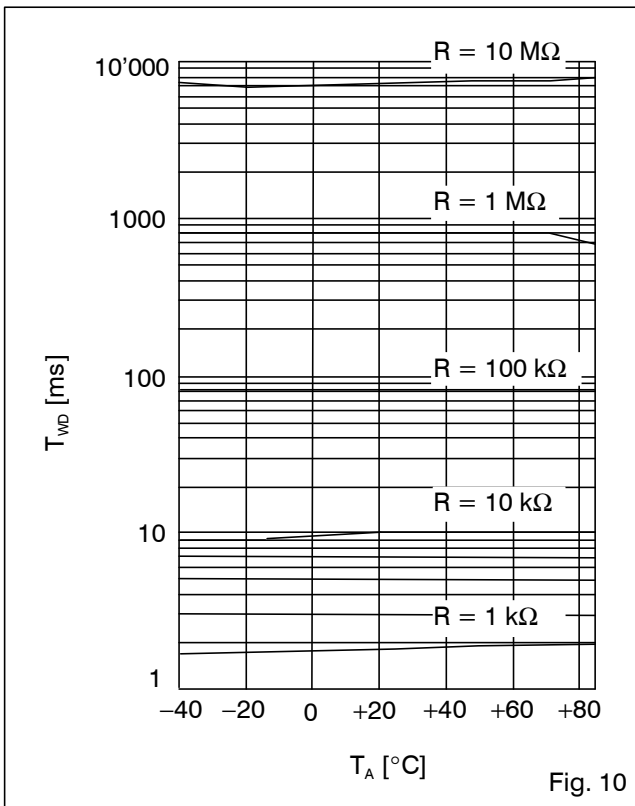
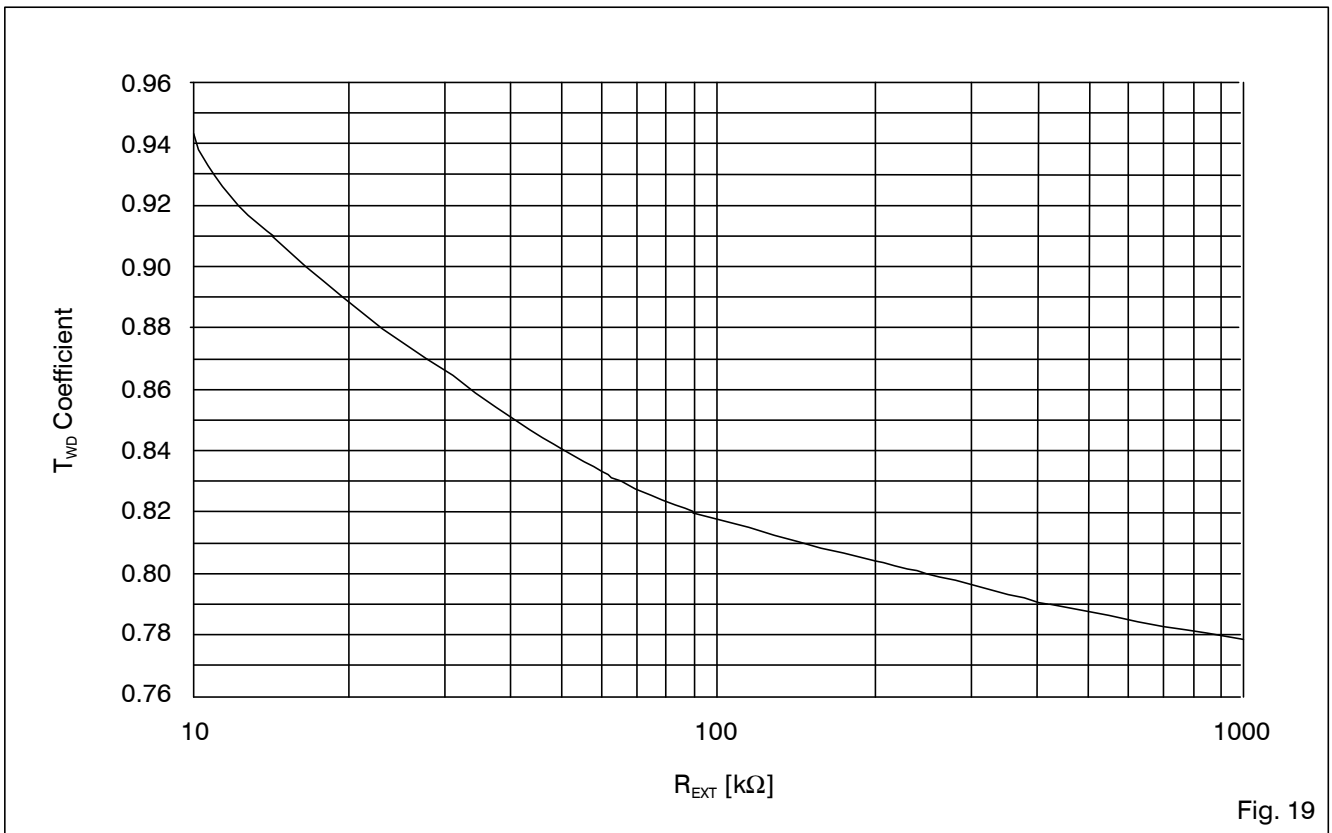
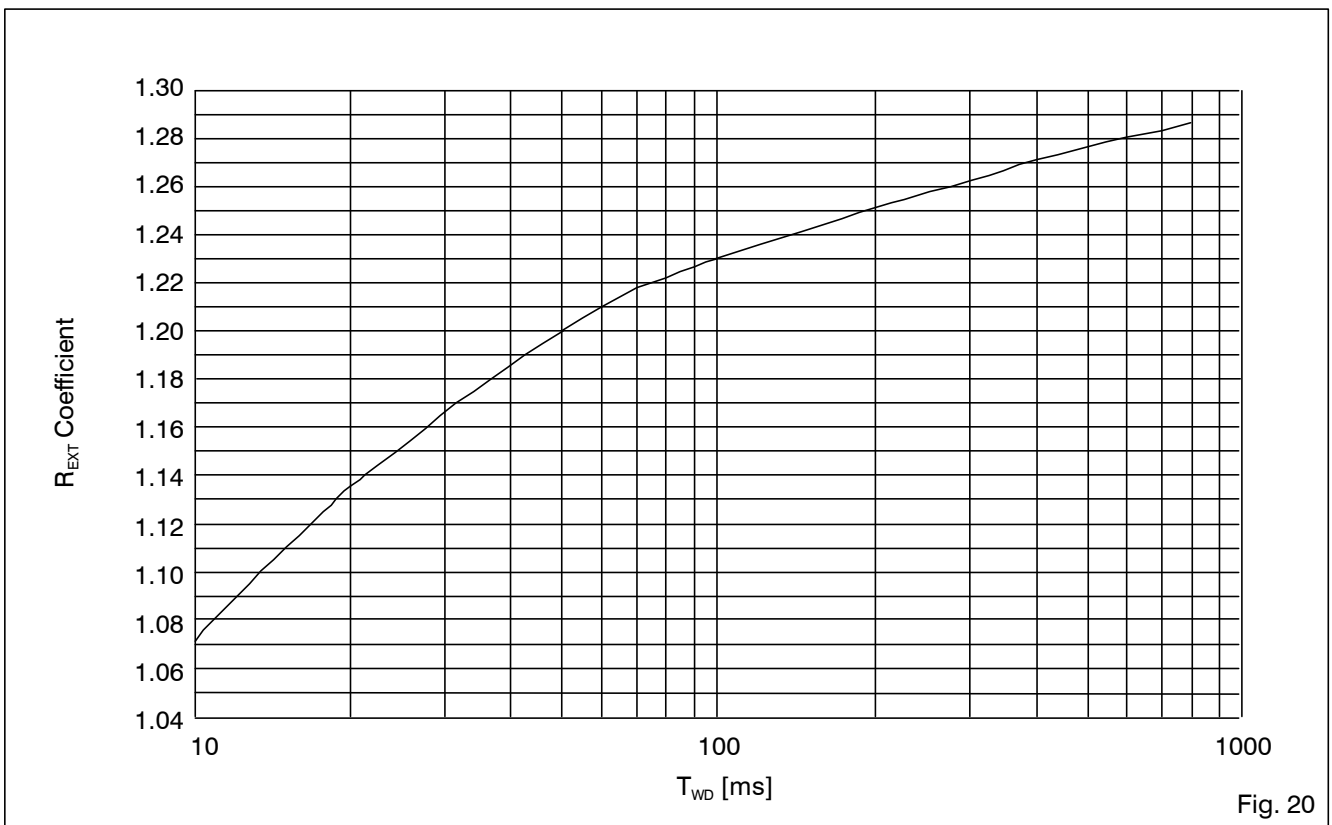

Fig. 10
Fig. 19
Fig. 20
Related to curves (Fig. 10 to Fig. 20), especially Fig. 19 and Fig. 20, the relation between  $T_{WD}$  and  $R_{EXT}$  could easily be defined. Let us take an example describing the variations due to production and temperature:
2. Related to Fig. 20, the coefficient ( $T_{WD}$  to  $R_{EXT}$ ) is 1.155 where  $R_{EXT}$  is in k $\Omega$  and  $T_{WD}$  in ms.